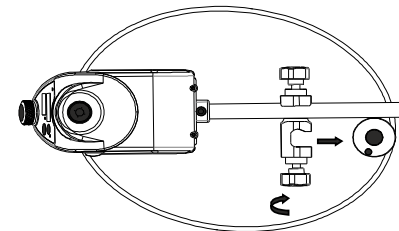

Figure 6
6. Put the stand rod in the left groove of the active block, use the adjust knob to fix them (refer to figure 6).